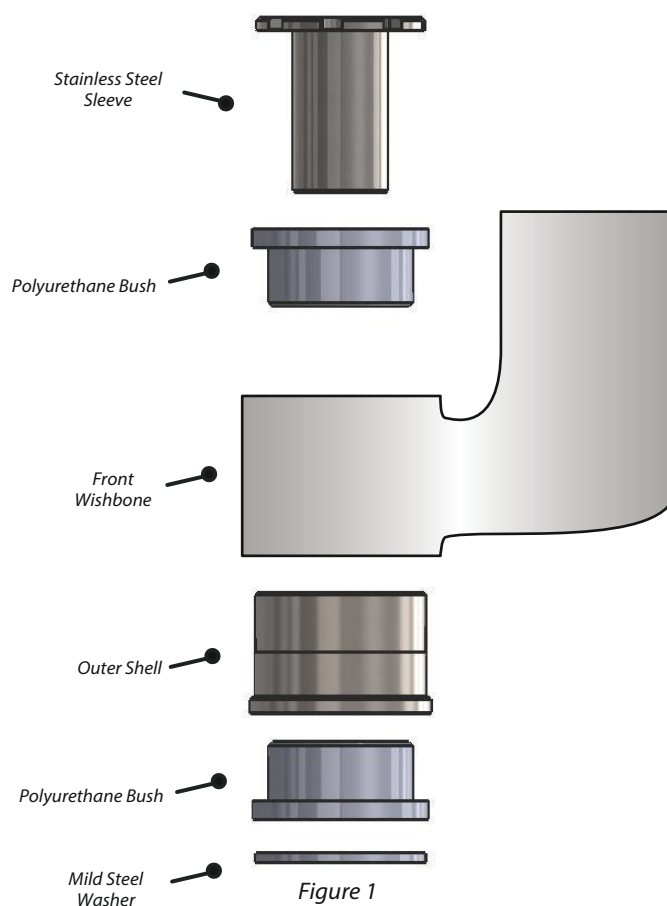

Figure 1
3. Press in the Zinc Plated Outer Shell into the arm from the inside of the arm out, as shown in figure 1.
4. Press a top hat bush from either side of the outer shell as shown in figure 1.
6. Fit the Stainless-Steel sleeve into the bushes with the adjustable part on the outside of the arm, shown in figure 1.